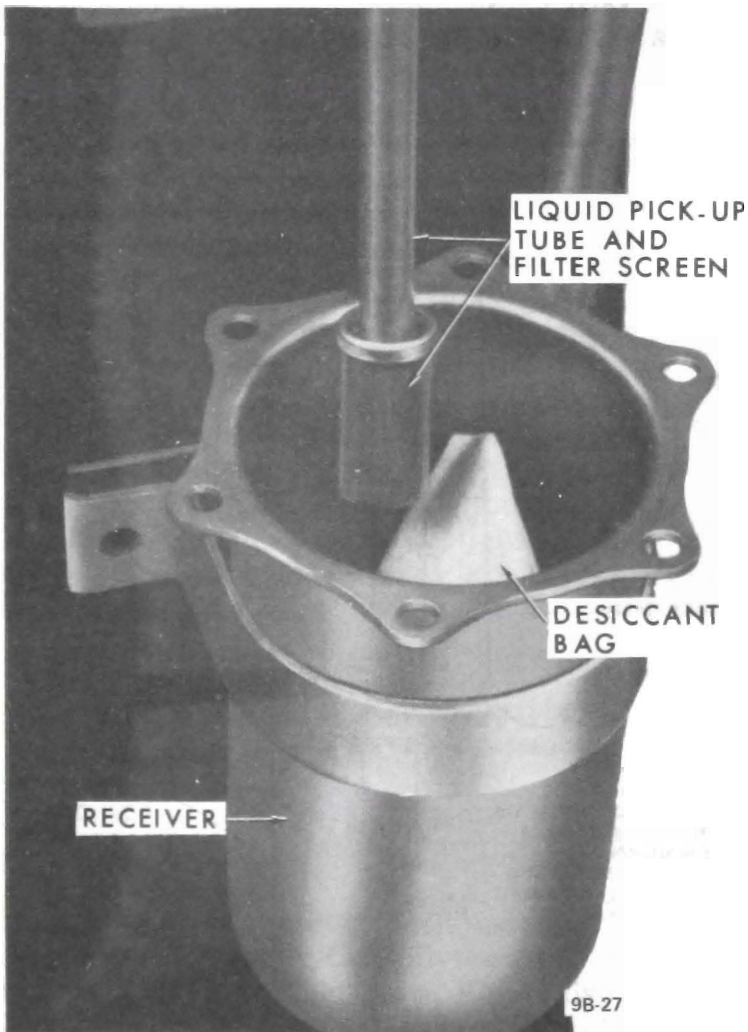

Figure 9B-31 Receiver Shell Removed for Access to Desiccant Bag
5. Remove the receiver mounting screws and remove the receiver by lowering it downward to clear the liquid pickup tube and filter screen. See Figure 9B-31.